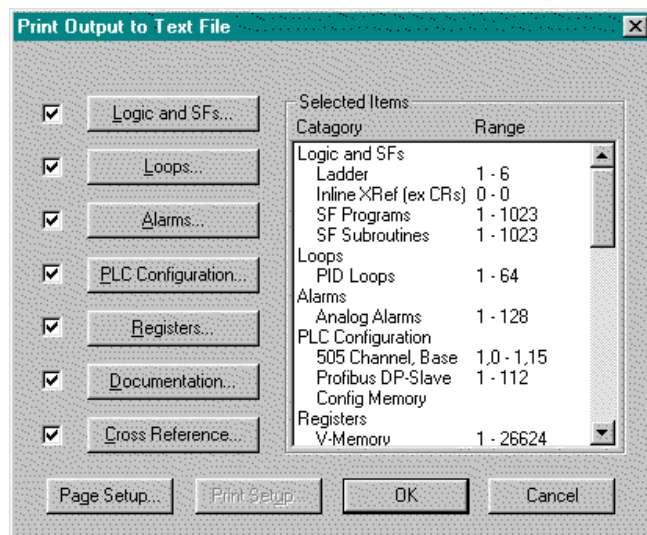

Figure 3.19b
1. To print to a text file select Output To Text File from the File menu. The **Result:** The Print Output to Text File dialog box appears (Figure 3.19b). See *Printing Logic Programs* for dialog box selections.